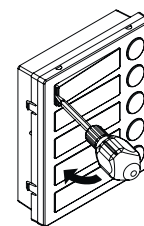

Fig. 9
- Move the screwdriver to the left as shown in **Fig. 9** to extract the card name holder;